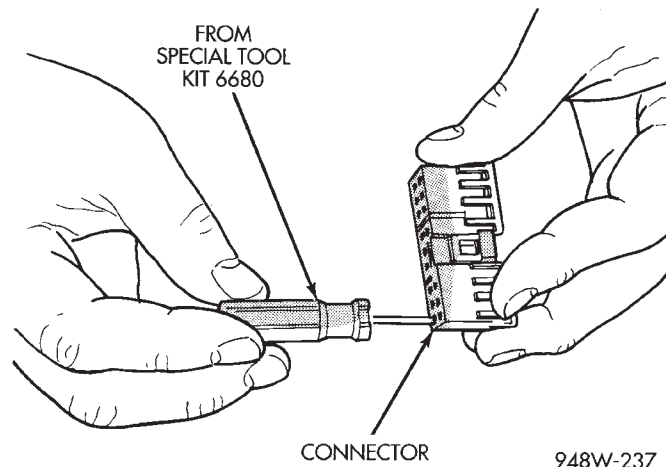

Fig. 12 Terminal Removal Using Special Tool
(4) Position the connector locking finger away from the terminal using the proper pick from special tool kit 6680. Pull on the wire to remove the terminal from the connector (Fig. 11) (Fig. 12).
(5) Reset the terminal locking tang, if it has one.